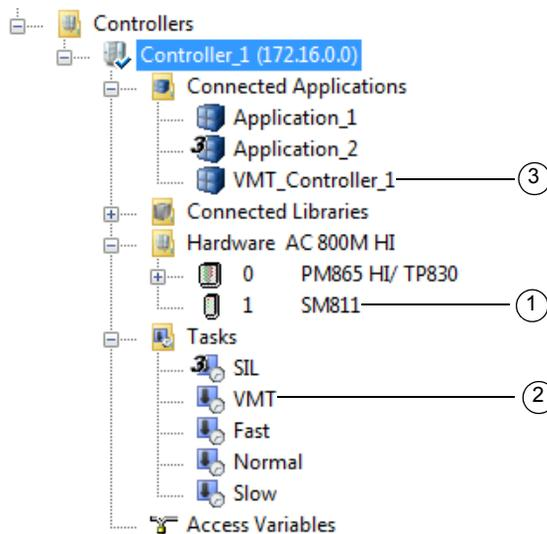

Figure 3. AC 800M High Integrity controller
An AC 800M High Integrity (HI) controller consists of a PM865 processor unit and a number of HI-specific objects that are added to the hardware tree, see Figure 3.